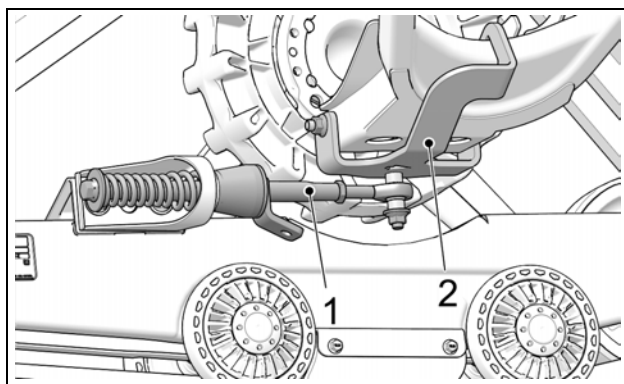

Figure 13
- Stabilizing arm (1) must be attached to rear anchor bracket (2) installed on vehicle. Figure 13.
*NOTE: Actual Rear Anchor bracket (2) mounted on vehicle may differ from the one in the illustration.*